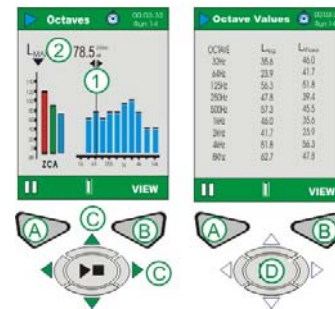

Figure 13 CEL-620B Main Run Screens
CEL-620B (Refer to Figure 13).
The CEL-620B provides two additional octave screens shown in Figure 13. Use the View key (B) to toggle the four available screens. Use the left/right cursor keys (C) to move across the frequency bands (1) when in graphical view. Use up/down cursor keys (C) to toggle between LMAX and LEQ. Parameters (2).